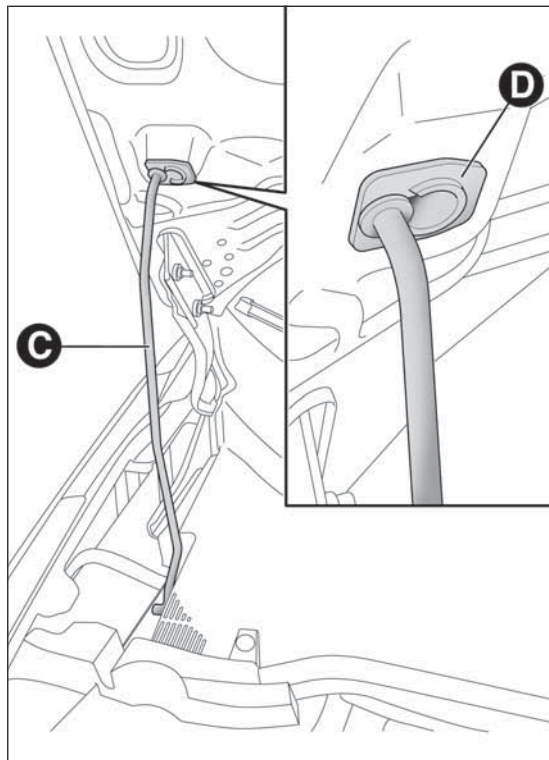

fig. 69
- ❑ lift the bonnet and, at the same time, release bonnet stay C fig. 69 from its locking device. Then, insert the end in housing D, making sure that the stay is engaged in the smallest opening of the retaining clip.
- hold the bonnet up with one hand and with the other remove rod C fig. 69 from housing D and fit it back into its locking device;